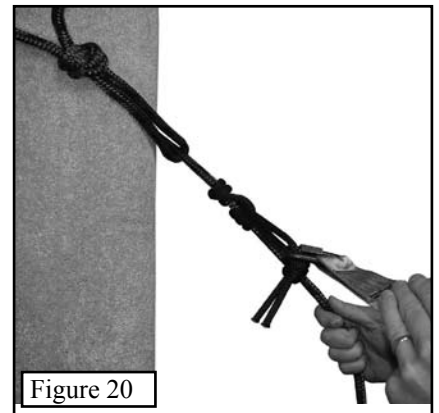

Figure 20
Step 1. Now that your platform and seat section are attached to the tree, you are ready to climb. It is **MANDATORY** that you use a safety harness as you climb. **Be sure to read the safety harness instructions for proper use of your safety harness.** Simply attach the safety line to the tree above the seat climber and secure it to the harness for climbing as shown in **Figure 20**.